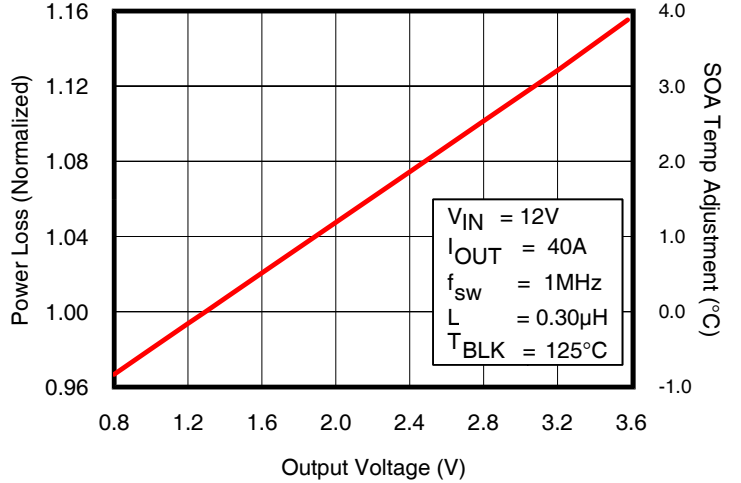

Fig. 4: Normalized Power Loss vs.  $V_{OUT}$
- (Fig. 4) Normalized power loss for output voltage  $\approx$  1.14
- (Fig. 4) SOA Temperature Adjustment for output voltage  $\approx 3.3^{\circ}\text{C}$